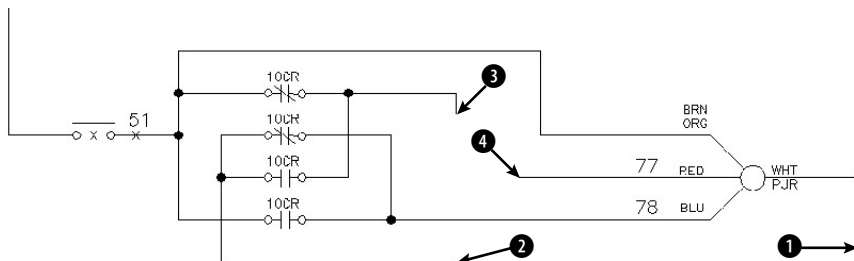

Figure 10-20: An electrical schematic.
2. Save the file as `ab10-06.dwg` in your AutoCAD Bible folder. It looks like Figure 10-20.
3.  Choose **Extend** on the Modify toolbar. At the Select objects or <select all>: prompt, pick the line at ❶ in Figure 10-20 and then press Enter.
4. At the Select object to extend or shift-select to trim or [Fence/Crossing/Project/Edge/Undo]: prompt, pick the line at ❷ in Figure 10-20. Press Enter to finish selecting objects. The command extends the line.
5. Repeat the EXTEND command. At the Select objects or <select all>: prompt, pick the lines at ❸ and ❹ in Figure 10-20 and then press Enter.
7. Pick lines ❸ and ❹ in Figure 10-20 again at the points shown. The lines extend to meet. Press Enter to end the command.